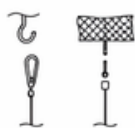

Figure 6
- Step1. Hang one end of the installation rope in the accessory kit on the wall or hook (Choose accessories according to your needs) (Figure 6)